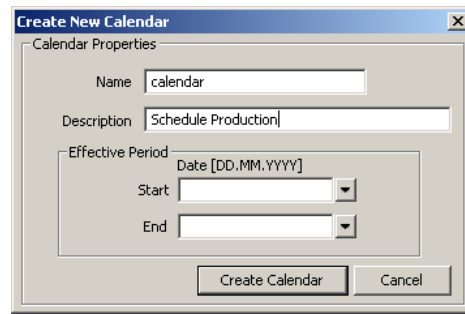

Figure 120: Create New Calendar dialog box.
3. In the Create New Calendar dialog box (as shown in Figure 120) enter Name and Description of the calendar. Correct the effective period if necessary.